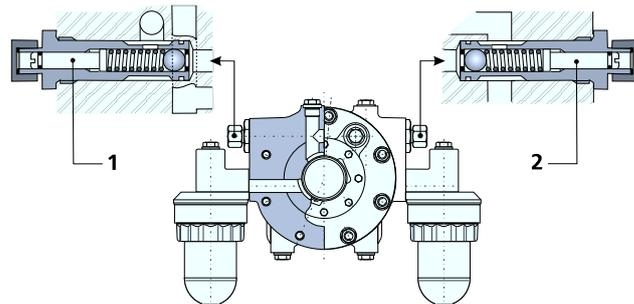

Fig.138
1. Install the control pressure regulator with a new aluminium ring on the right-hand side of the pump. Figure 138, Page 57